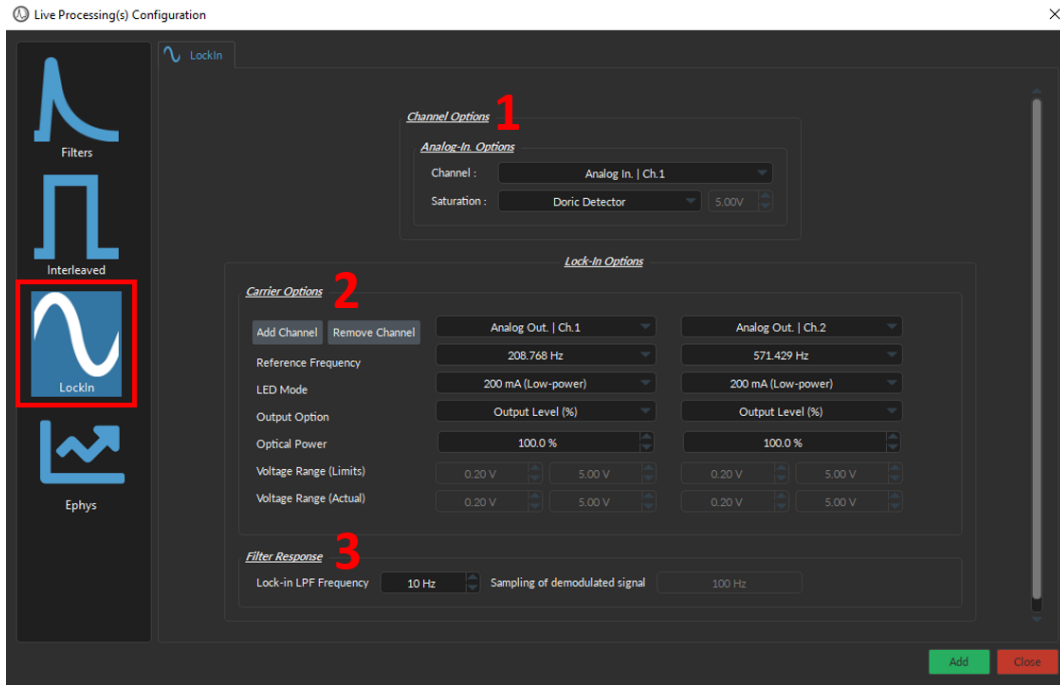

Figure 11.78: *Live Processing, LockIn*
To create a **LockIn** preset configuration, specify the following parameters (Fig. 11.78):
1. The **Channel Options** (Fig. 11.78, 1) specifies the Analog Input-related information required for the **LockIn** present configuration, and includes the following parameters:
2. The **Carrier Options** (Fig. 11.78, 2) specifies the **Analog Output** dependencies required for the **Lock-In** preset configuration, and includes the following parameters:
3. The **Filter Response** (Fig. 11.78, 3) contains the following parameters: